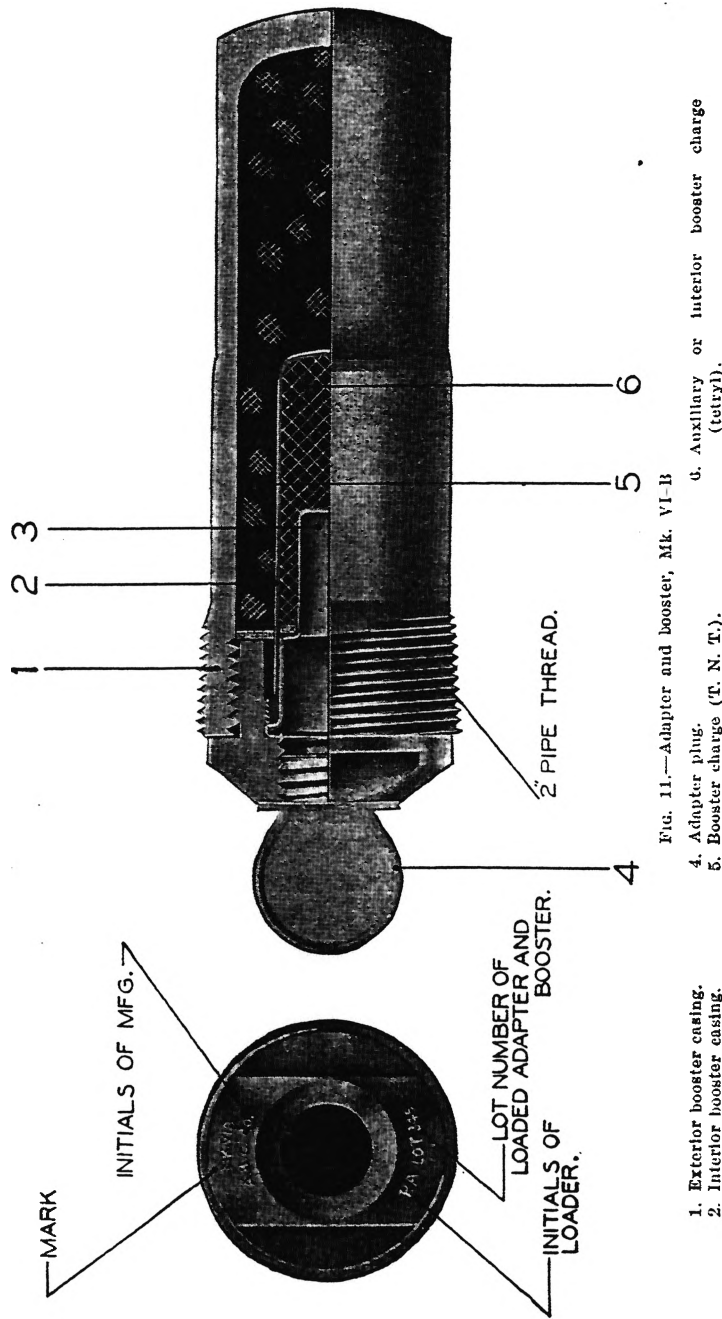

Fig. 11.—Adapter and booster, Mk. VI-B
1. Adapter and booster may or may not be painted. (For stamping on adapter and booster, see fig. 11.)
**13. Adapter and booster, Mk. VI-B.**—The adapter and booster Mk. VI-B is used in 155-mm. chemical shell, Mk. VII. Figure 11 shows this adapter and booster, and gives the names of the principal parts, together with the stamping identifications. This component differs from that which is used in the high-explosive shell in that